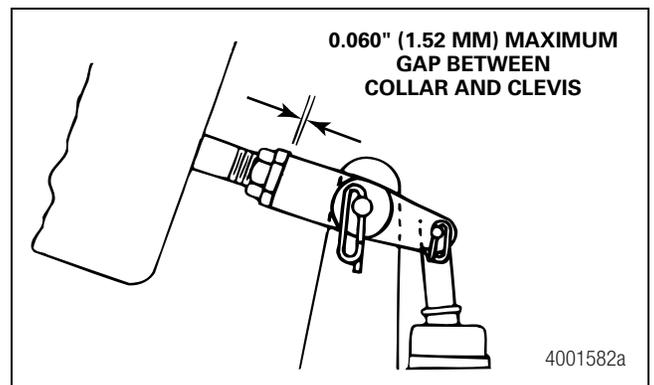

Figure 6.5
- Remove the clevis from the push rod if the gap between the clevis and the collar of a Quick Connect clevis exceeds 0.060-inch (1.52 mm). Do not remove the clevis if it is in good condition. Figure 6.5.